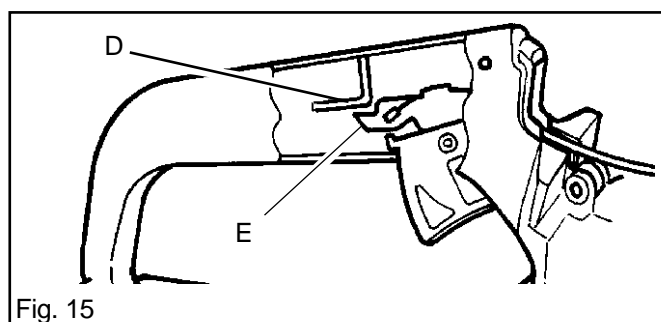

Fig. 15
1. Assemble the throttle lever and cable and locate them in the tank unit. Ensure that the cable lever arm (E) is between the lip (D) and the under-side of the hand grip. See fig. 15.